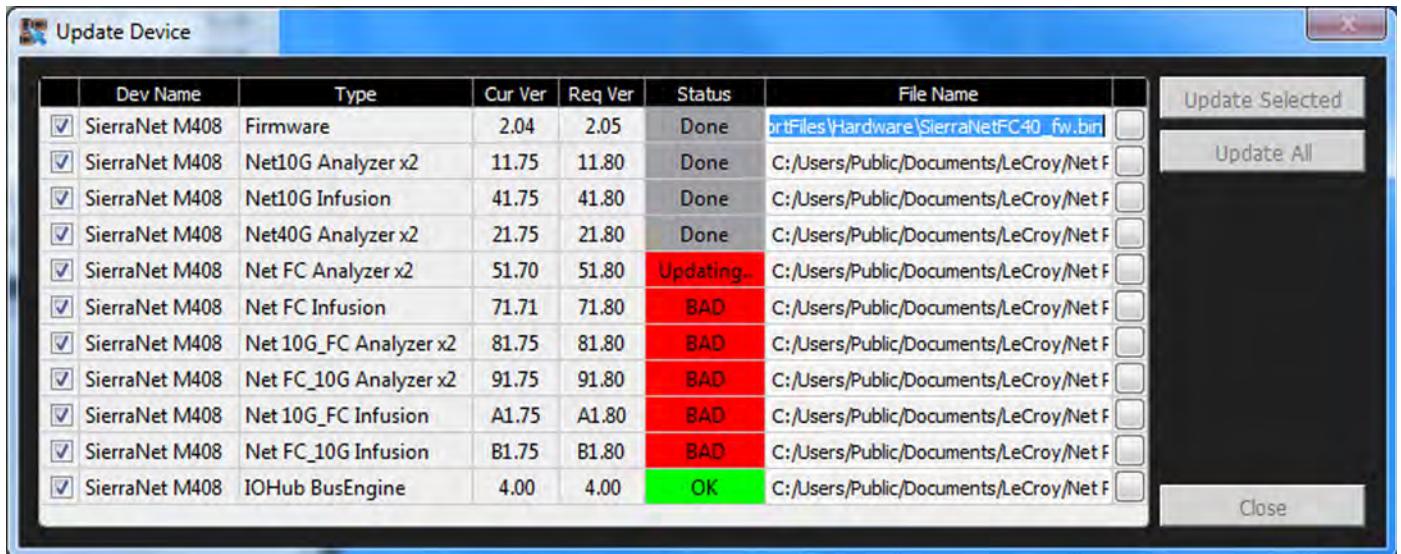

Figure 2.81: Components Being Updated
- Click the **Update All** button. Each component will be updated to the Required Version (Figure 2.81).